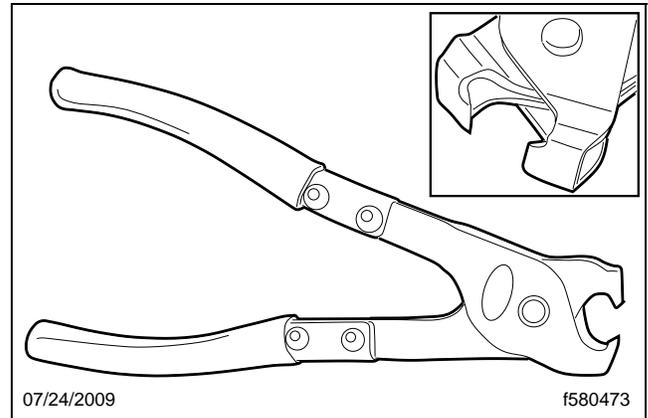
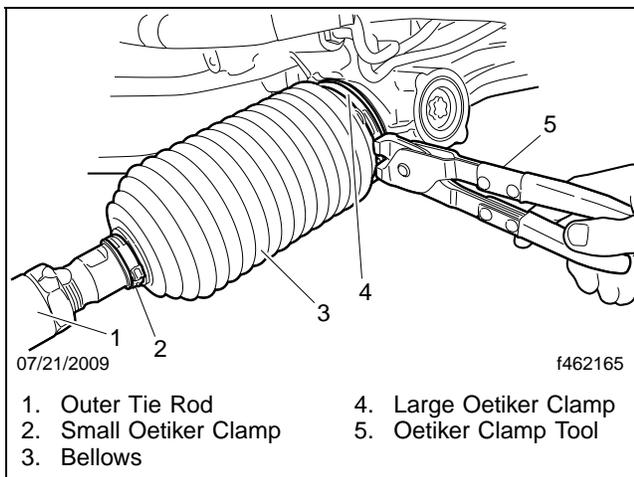
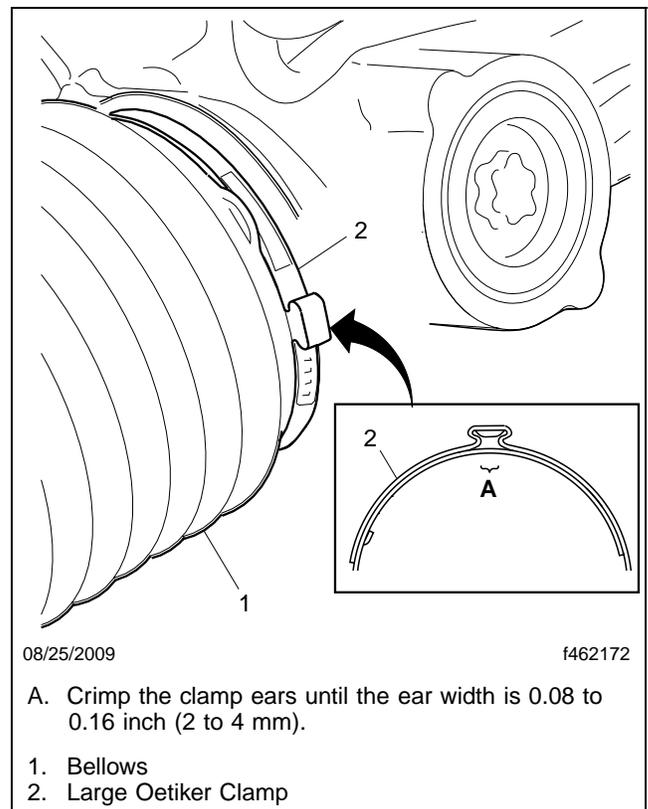

Fig. 27, Oetiker Clamp Tool, P/N 14100037 or 14100082
Fig. 28, Oetiker Clamp Installation
Fig. 29, Oetiker Clamp Ear Width
- 11.3 Using an Oetiker clamp tool (**Fig. 27**), crimp the small and large Oetiker bellows clamp ears until the ear width is 0.08 to 0.16 in (2 to 4 mm). See **Fig. 28** and **Fig. 29**